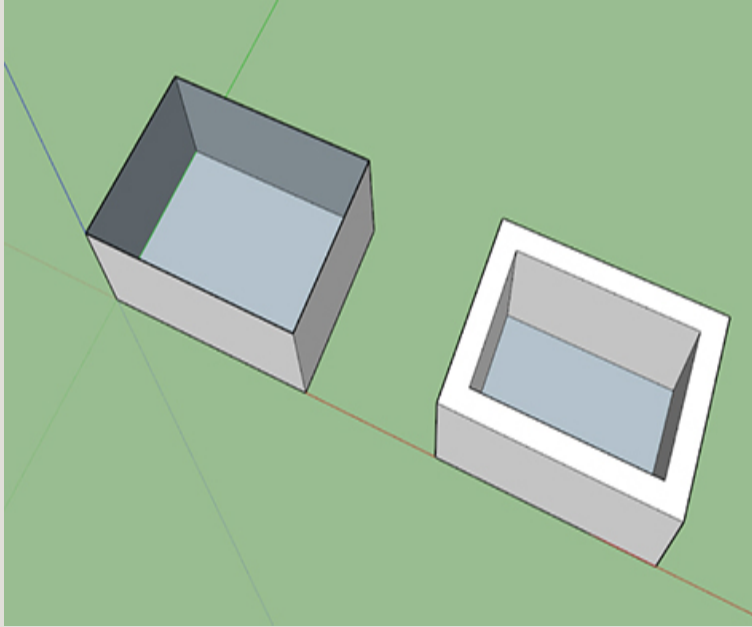

Figure 5-1 The left model is single-face and unprintable. The right model has thickness, which is needed for printing.
- **Has thickness** (Figure 5-1). Zero-thickness planes are meaningful to SketchUp but not to a 3D printer. For instance, a single-face wall and the scale figure are not printable.